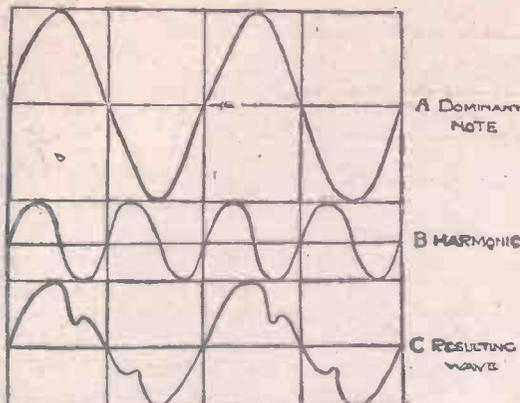

Fig. 3.—Composition of the Compound Wave.
of jagged curves. Fig. 3 shows the very simple case of a note having only one harmonic. It will be seen that during the first part of the rise of the wave of the dominant note (A) the wave of the harmonic (B) rises also. The resulting wave (C) will therefore rise steeply at first, since the two forces are acting with one another. Just before the dominant wave reaches its crest that of the harmonic starts to fall. The rise of the resulting wave is checked and it begins to drop sharply. Its fall, however, is arrested by a rise in the harmonic wave, and a kind of hump is formed. Succeeding cycles are influenced in the same way.
What is the difference between music and noise? All sound is conveyed by *sine waves* which may be combined to form composite waves. A glance at Fig. 3 will show that though the contours of the